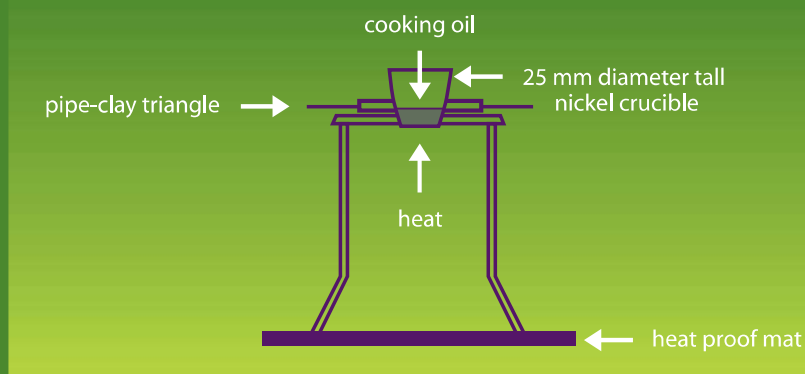

Figure 1 - Set up.
- Set up a tall form nickel crucible as shown in Figure 1. (Porcelain ones might crack and squat ones might spray the flaming liquid sideways). It should be firmly held and not tip over when the flame is put out.